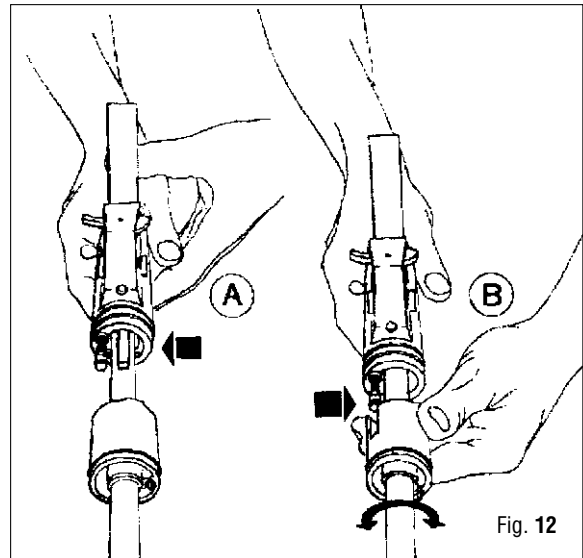
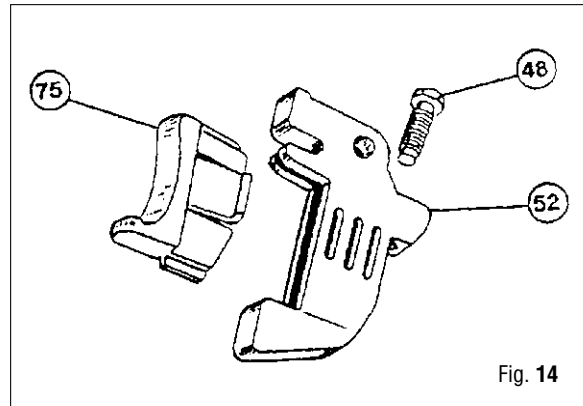

Fig. 12
Fig. 14
7. Position the one-way housing (69) over the one-way seat (68) and press into place (Fig. 12).
8. Place O-ring (20) into the groove of the power regulating block (70) (Fig. 12).
Position the handle (41) with the trigger seat above the catch hook (50) (Fig. 12-A). Align the power adjustment rod with the corresponding hole in the power regulating block. If necessary, rotate the power regulating block, making sure the one-way housing remains in the snap ring seat (Fig. 14-B). Push the handle against the power regulating block and make sure that the power regulating block tabs are positioned in their seats in the handle.
29. On guns prior to serial number 92289000, place the o-ring (46) into the handle insuring that it is positioned in its seat then install the snap fork (74). Be sure that the snap fork locks into place.
30. Insert the rounded end of the connecting plunger (45) into the bushing (47) or snap fork (74) using special tool A-13 (Ø 3mm) or needle nose pliers.
32. Install trigger adjustment screw (48) and trigger insert (75) into trigger body (52) (Fig. 14). With a 6 mm wrench, tighten trigger adjustment screw (48) into trigger body (52), until the 6 mm. hex protrudes approximately 4 mm.
33. Align the hole in the trigger with the holes in the handle (41) and install trigger pin (53).
37. Open the jaws and remove barrel (26).
38. With a rotating motion, install tank (25) using jaws (A-3) if necessary.
39. Fill the barrel (26) with oil, according to the quantities shown in the table below.